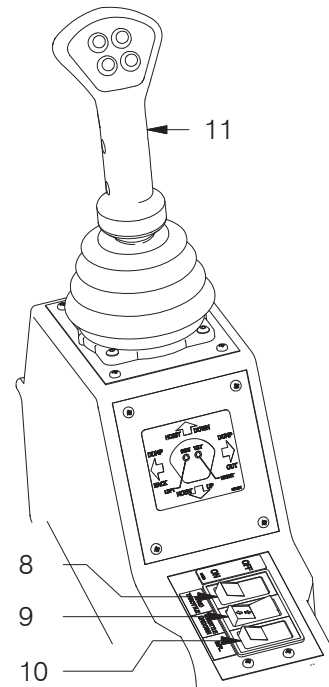

Figure 3-19 Right Armrest Control Unit
Over rides foot throttle. To engage flip switch into the on position. Used with item 9 (See Figure 3-19).
Adjusts RPM's up or down when adjacent switch (item 8, see Figure 3-19) is engaged.